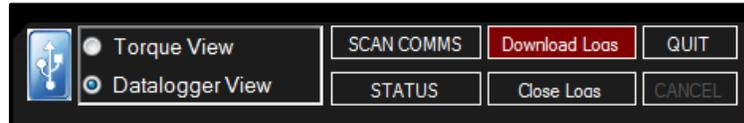

Figure 5.3-1: Download Logs Button
1. Press the **“Download Logs”** button on the Main Screen (Figure 5.3-1).